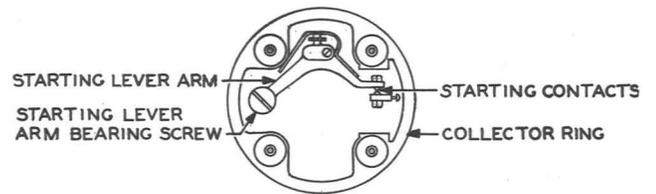

Fig. 5 - Regulator Starting Contacts
Speed Regulator (General Electric Co GSR type): Fig. 5 and 6
3.19 Collector Rings, Starting Lever Arm, and Starting Contacts: Fig. 5 and 6 -